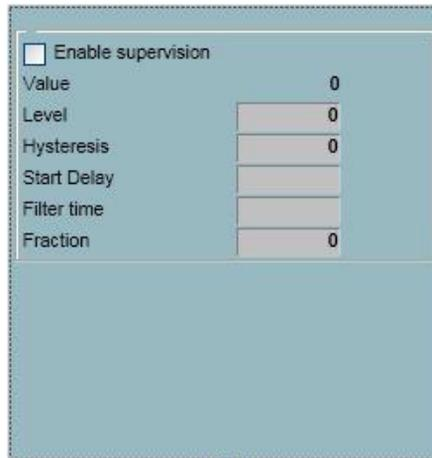

Figure 252. The Level detection graphics moved to the top of the background
7. Move the Level Detection graphic to the top of the faceplate element as shown in Figure 252. The graphic should be placed at position [3,3].